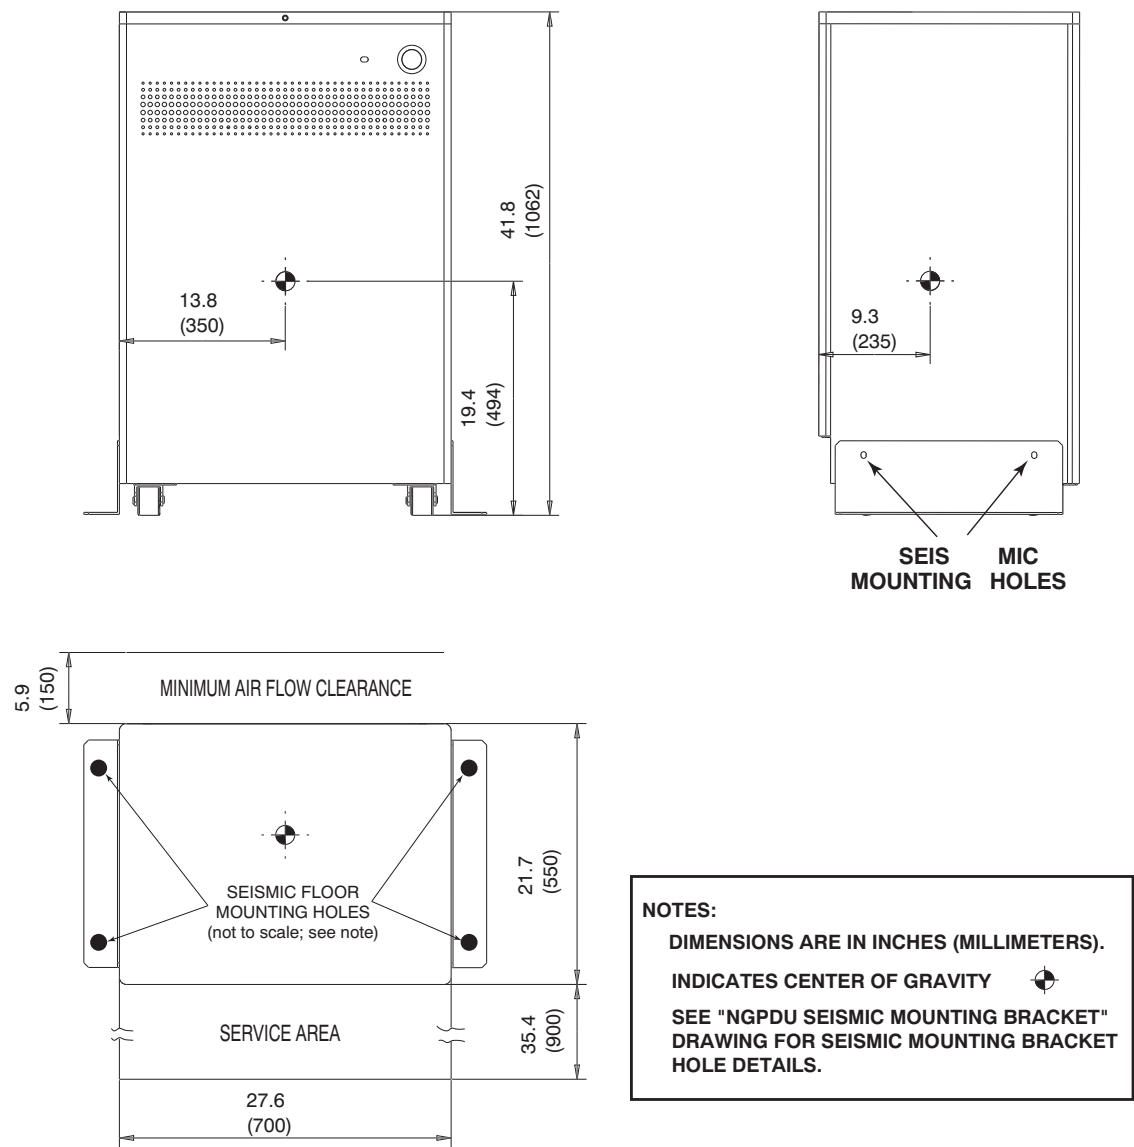

Figure 8-14 PDU Center-of-Gravity
- Power Distribution Unit: Figure 8-14 (PDU Seismic Mounting Bracket)